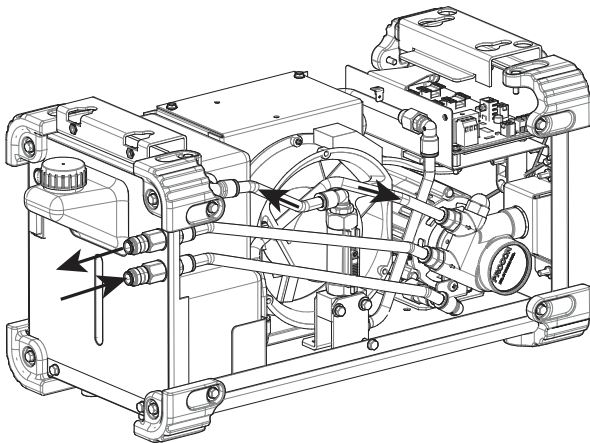

Figure 6
- Connect the water-cooler hoses – Figure 6.